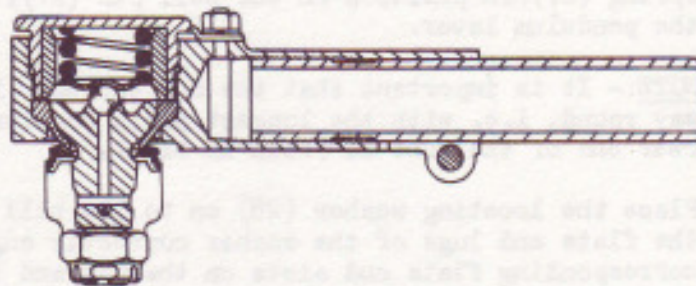

FIG. 15. SECTION THROUGH BALL JOINT AT FRONT END OF SIDE STEERING TUBE.
The ball joints are lubricated from the centralised chassis lubrication system. No adjustment is provided for the poundage (friction load) on the ball joint at the front end of the tube, as a coil spring exerts a constant pressure on the joint (See Fig.15). The tube can be adjusted for length, but it should seldom, if ever, be necessary to alter it. Its length is fixed by the makers during the build of the chassis. The tube has a right-hand thread, 26 T.P.I. and is screwed into a socket, the latter, attached to the centre steering lever. Should damage occur to a tube as the result of an accident which necessitates its replacement, then the new tube will have to be adjusted for correct length as described later.
- (i) Reverse the instructions for removal. (Refer to Fig.15). The ball joint and cap must be packed with a soft type of grease, such as Duckham's HBB grease, during re-assembly, to prevent oil leaking.
- (ii) Screw down the cap nut as far as it will go, fit the locking plate (2) and secure with spring washer and nut (1). Wipe away surplus grease from joint.
- (v) Place the spherical face of the sealing disc (11) against the ball pad (9, Fig.15), and then place the small diameter end of the pressure spring (13) on to the spigot of the sealing disc, and without disturbing the position of them, enter the ball pin into the centre steering lever. Fully tighten up the nut (12) and secure with a new split pin.